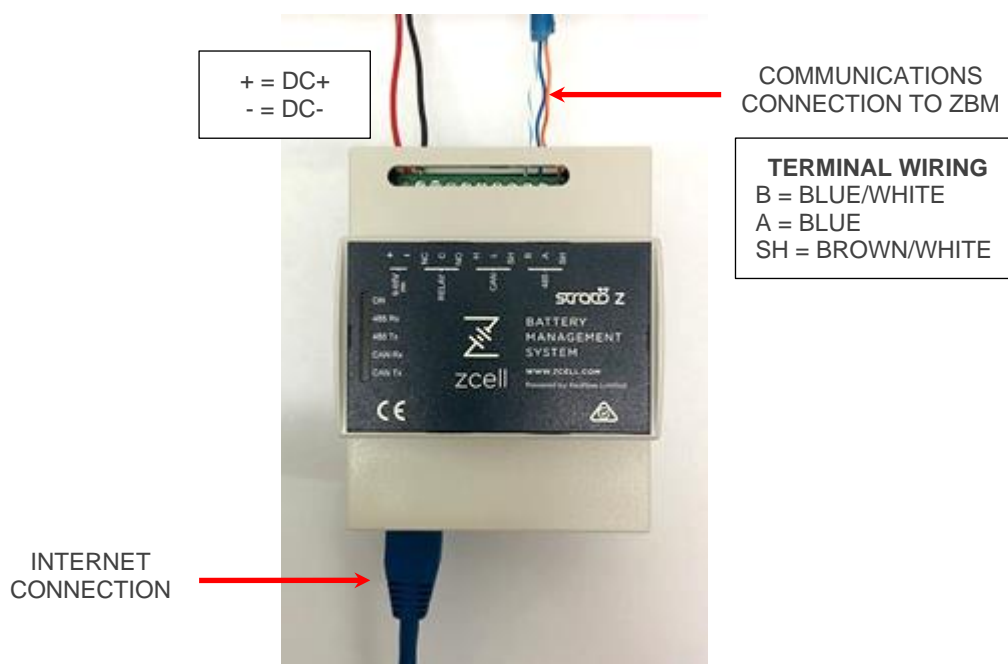

Figure 19: BMS connections
STEP 1 Connect the BMS to the ZBM via a Communication port on the BCM (see Figure 21. This is done by using the supplied Cat6 cable and cutting the RJ45 connector off one end. Using the standard colour coding in the cable, strip the blue/white, solid blue, and brown/white wires. Connect these wires to the B, A, and SH terminals, respectively, of the 485 section on the BMS as shown in Figure 19.
Connect a network cable (not supplied) from a network modem/router port with an open internet connection to the RJ45 port of the BMS as shown in Figure 19.